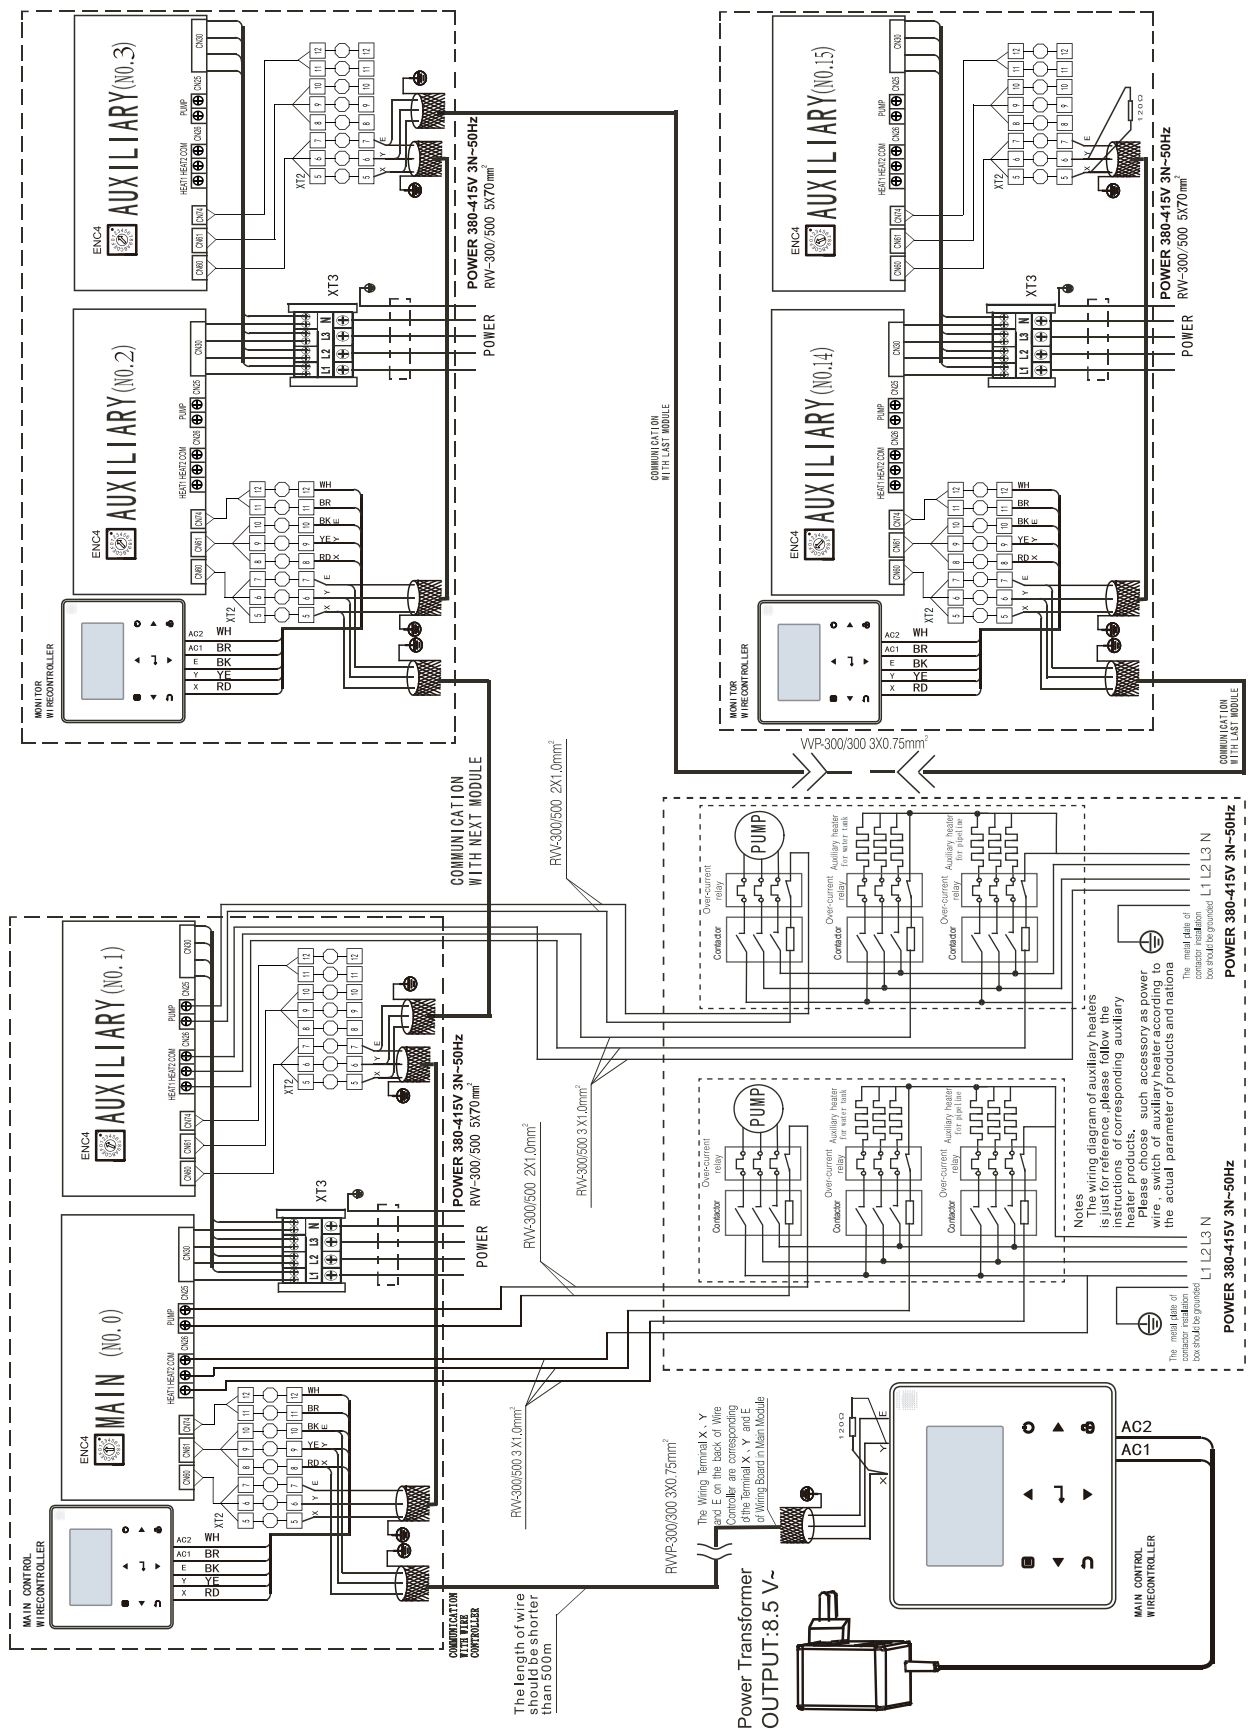

Fig. 8-28 Networking communication schematic of main unit and auxiliary unit for HYC-SU180M-RN8L-B
- c) The inlet pipe of the evaporator must be provided with a target flow controller, to realize flow-break protection for the unit. Both ends of the target flow controller must be supplied with horizontal straight pipe sections whose diameter is 5 times that of the inlet pipe. The target flow controller must be installed in strict accordance with "Installation & Regulation Guide for Target Flow Controller" (Fig.8-28,8-29). The wires of the target flow controller should be led to the electric cabinet through shielded cable (see Electric Controlling Schematic Diagram for details). The working pressure of the target flow controller is 1.0MPa, and its interface is 1 inch in diameter. After the pipelines are installed, the target flow controller will be set properly according to the rated water flow of the unit.